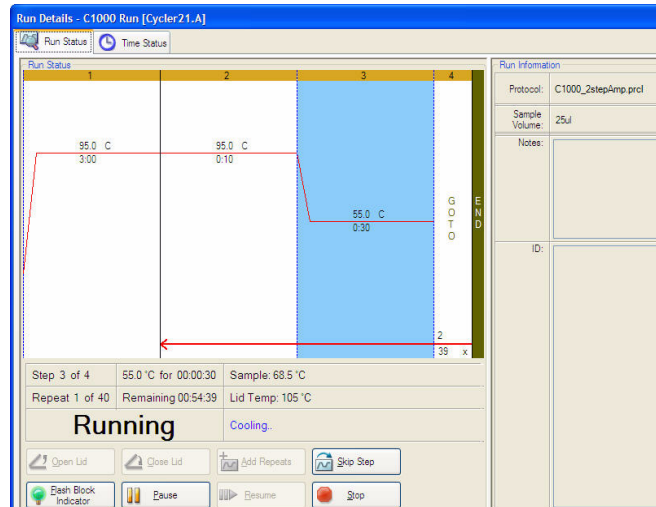

Figure 100. Run Details window.
3. When the **Run Details** screen appears (Figure 100), select the **Run Status** tab to check the current status of the selected block, pause the run, stop a run, or skip a step.